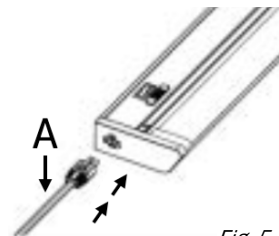

Fig. 5
4. Connect the power cord (A) to the light fixture's input port (Fig. 5).